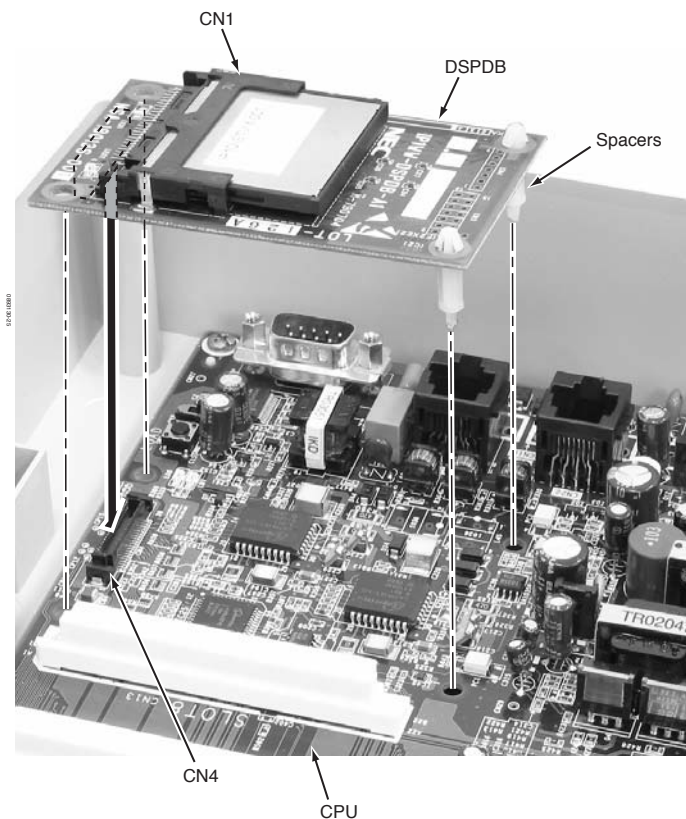
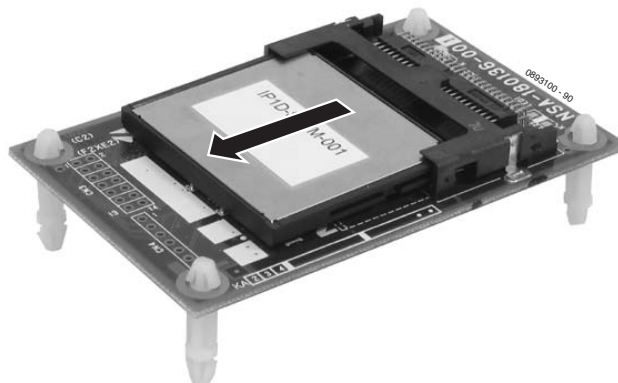

Figure 2-4: DSPDB DAUGHTER BOARD INSTALLATION
Figure 2-5: REMOVING THE COMPACT FLASH CARD
2. Install the DSPDBU daughter board if required. Refer to **DSPDB Daughter Board (Figure 2-4, Figure 2-5)** (page 2-13).
DSPDB Daughter Board (Figure 2-4, Figure 2-5)